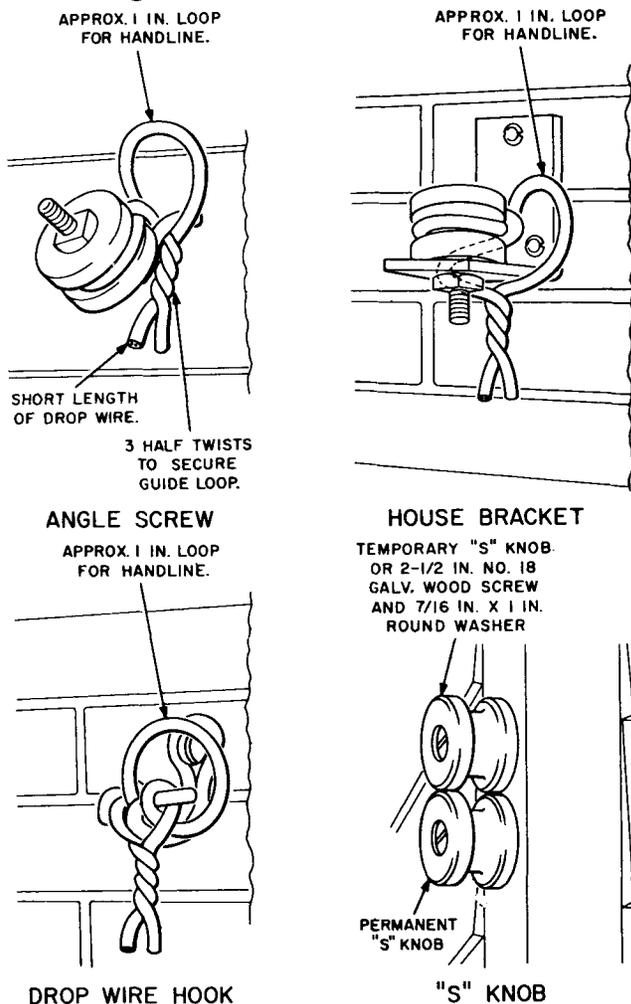

Fig. 9 — Temporary Guide Loop
**5.02** Place a drop wire between two buildings in the same manner as for a pole-to-building run, providing as much sag as practicable in the wire span. A temporary guide loop, such as shown in Fig. 9, should be installed on the first building attachment at which the wire span is to be raised, to prevent accidental disengagement of the handline from the building attachment. Support the tension in the wire by lashing the handline, which was used in raising the wire, to a substantial and secure support near the base of the building and then install the second drop wire clamp of the span.